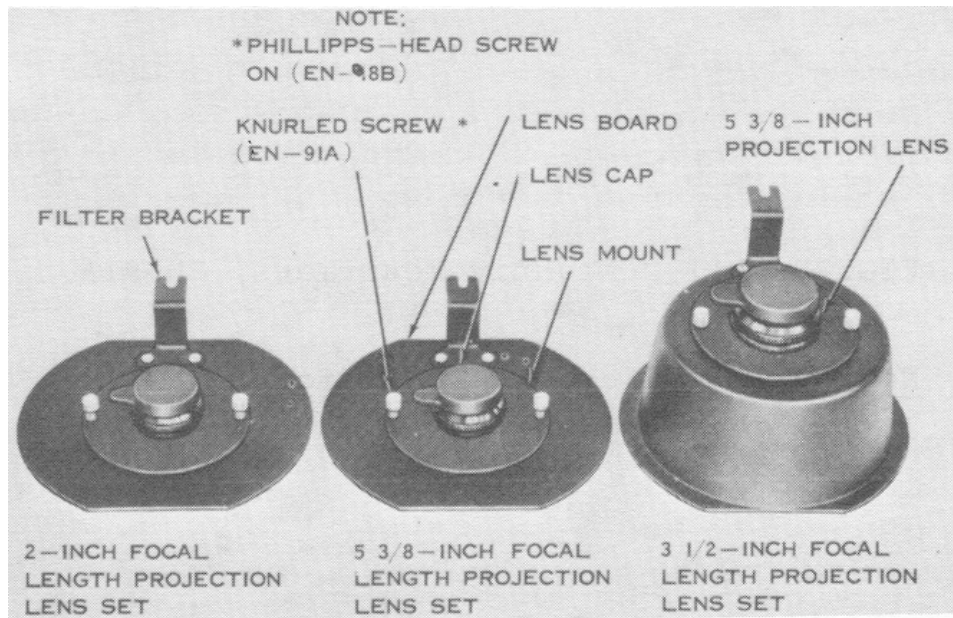

FIGURE 2-10. Projection lens sets.
i. Projection lens sets (figure 2-10). Three projection lens sets, having focal lengths of 2, 3 1/2, and 5 3/8 inches, are supplied with the printer. Each lens board has been cut off at two diametrically opposed sides of the top to permit bayonet-type mounting, and each is equipped with a bracket on which the red filter assembly can be mounted by a knurled screw.